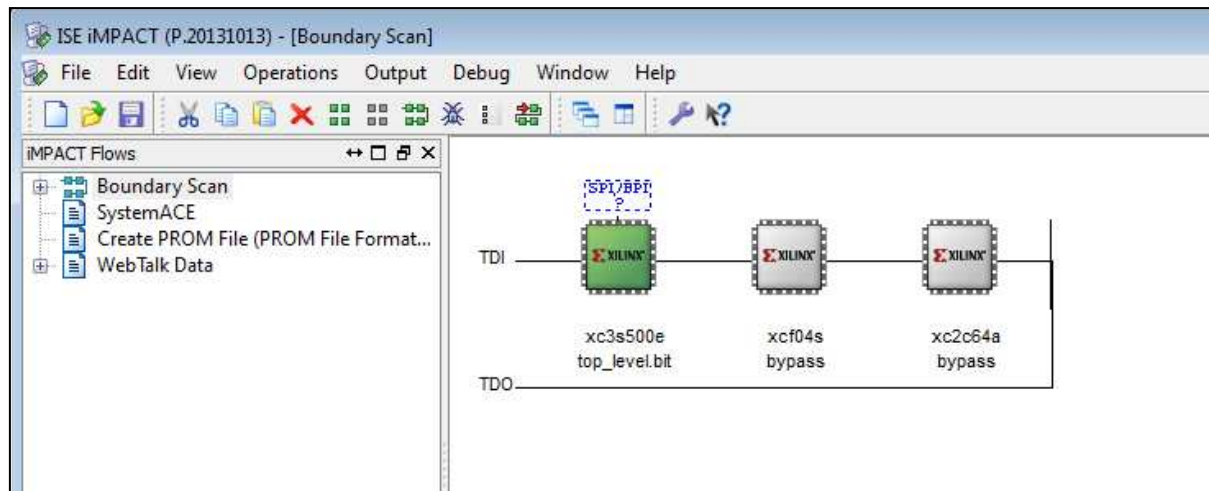
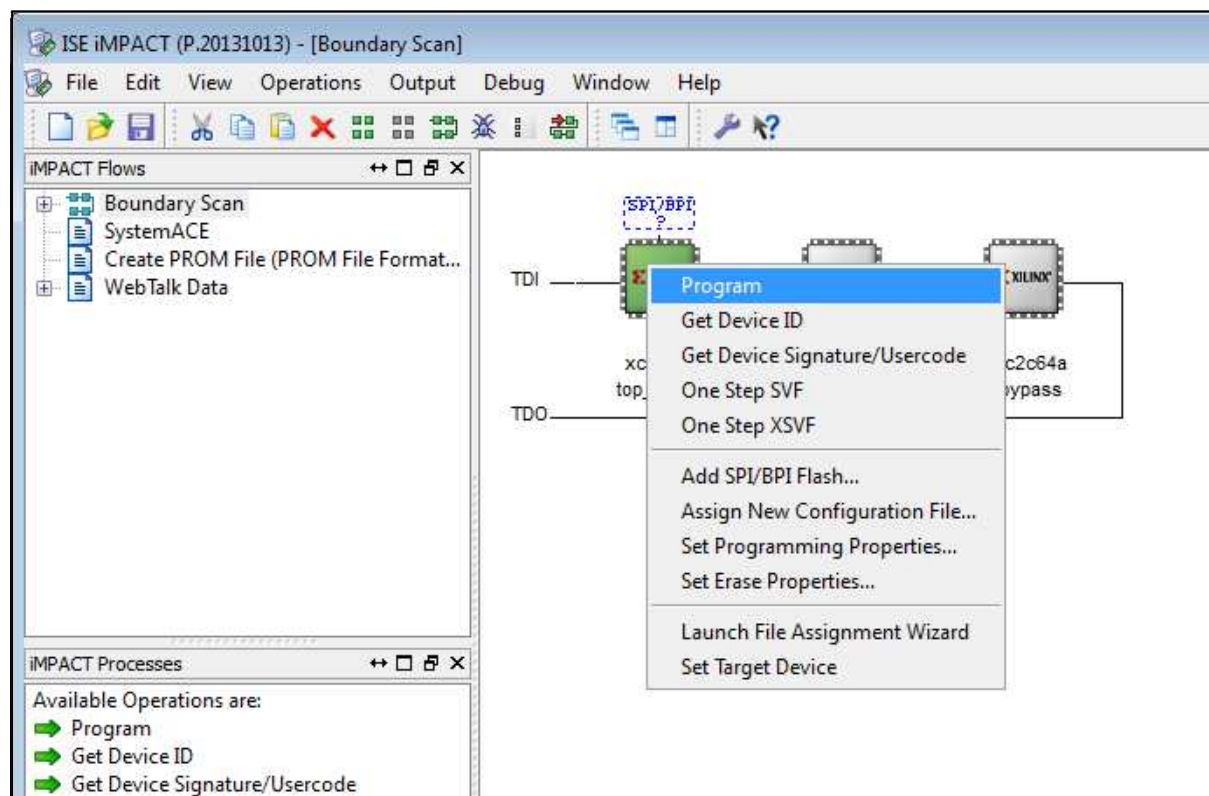

Figure 3.38: iMPACT window, showing the device chain.
Figure 3.39: iMPACT window, options which appear when right clicking on the xc3s500e.
13. The iMPACT window should now appear as shown in Figure 3.38. Right click on the xc3e500e chip (Figure 3.39) and select **Program**.